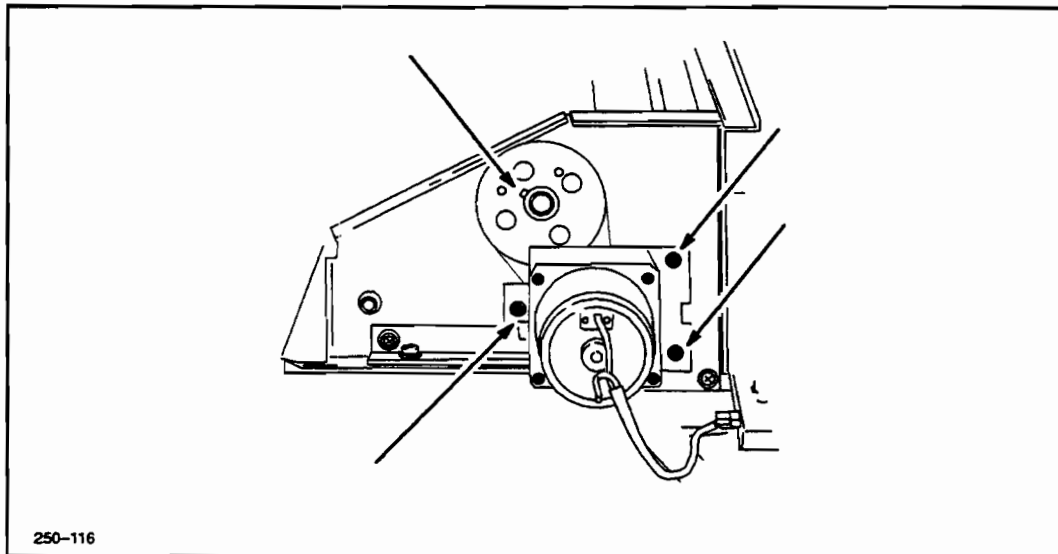

Figure 6-76. Take-Up Reel Drive
1. Switch the plotter OFF (O).
5. Remove the three (3) screws securing the motor assembly to the plotter. See Figure 6-76.
7. The drive gear can be removed by using a hex-head wrench to loosen the screw. See Figure 6-76.